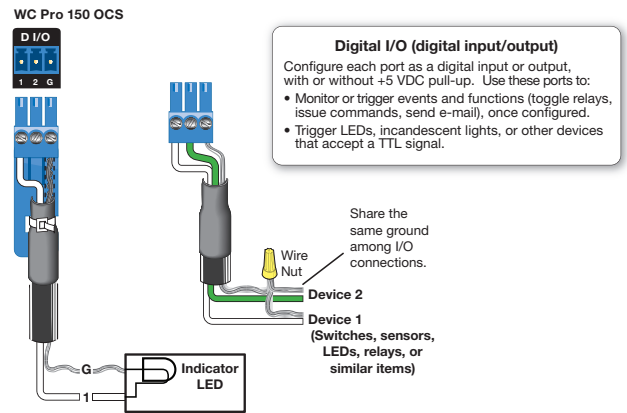

Figure 8. Digital Input Port Wiring
- D **Digital input/output port** (see figure 3 on page 8) — Connect a switch, sensor, LED, relay contact, or similar item to this port (see figure 8).